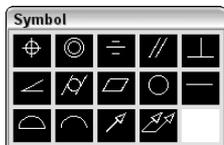

Figure 15-37: Use the Symbol dialog box to choose the symbol for the type of geometry for which you want to specify tolerance.
1. Click the first Sym box to open the Symbol dialog box, shown in Figure 15-37.